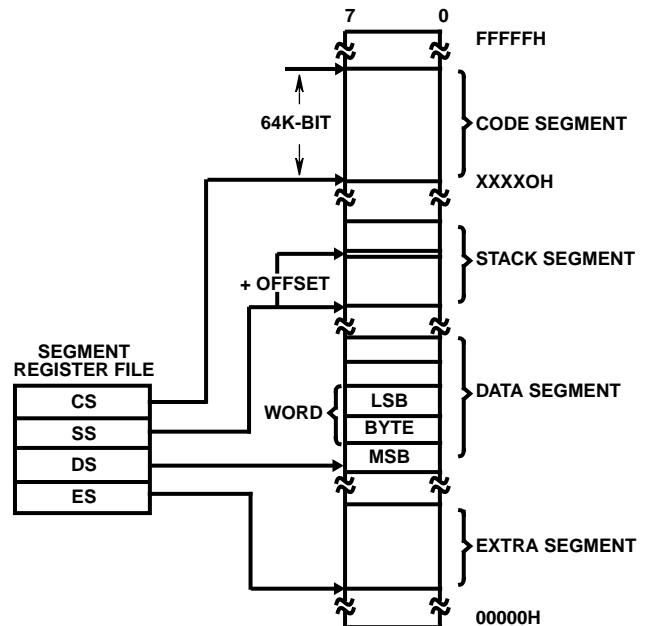

FIGURE 1. MEMORY ORGANIZATION
as a linear array of up to 1 million bytes, addressed as 00000(H) to FFFFF(H). The memory is logically divided into code, data, extra, and stack segments of up to 64K bytes each, with each segment falling on 16 byte boundaries. (See Figure 1).